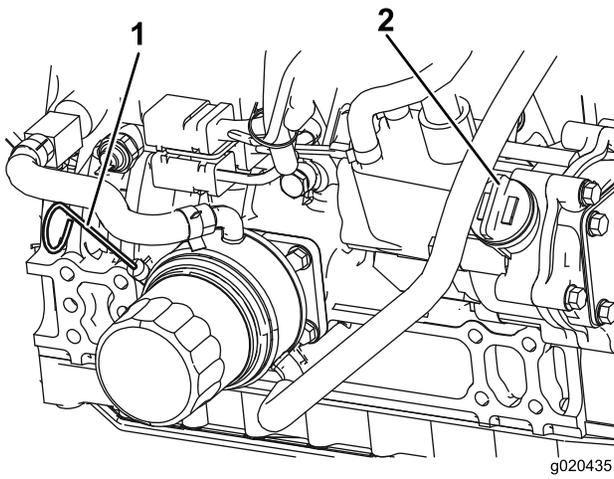

Figure 17
**Note:** The oil level should be in the safe range (Figure 17).
4. If the oil is below the safe range, remove the fill cap (Figure 17) and add oil until the level reaches the Full mark. **Do not overfill.**